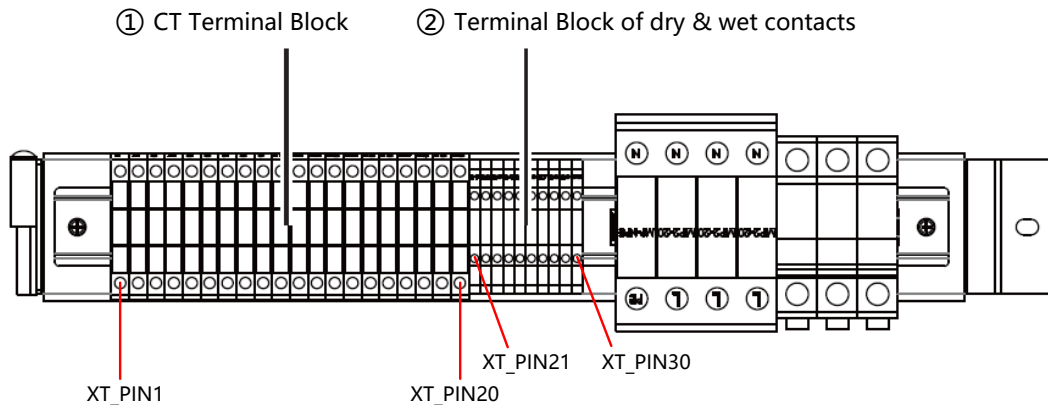

Figure 2-1 Pin Position on CT Terminal Block of SVG or APF cabinet
CT terminal board of SVG or APF cabinet is shown as *Figure 2-1*, indicated as ①. In total, 20 pins are related to CT connection (from XT_PIN1 to XT_PIN20).